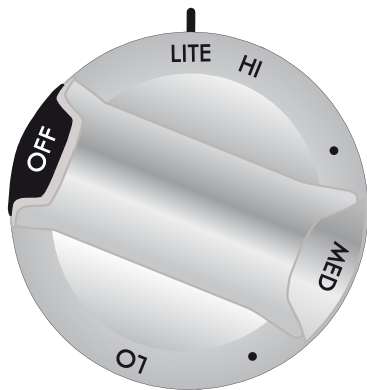

Figure 2
3. Release the knob and rotate to the LITE position (Figure 2). Note: All four electronic surface ignitors will spark at the same time. However, only the burner you are turning on will ignite.